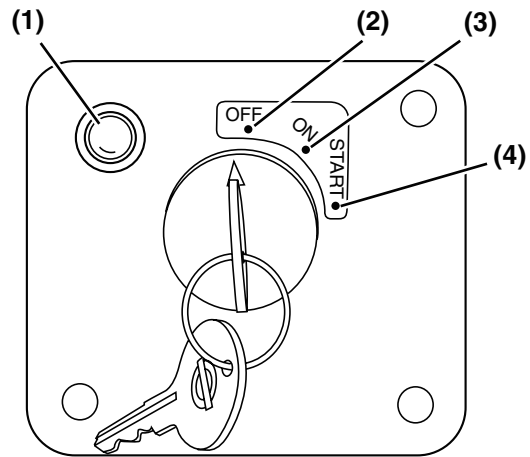

Figure 5
Battery - (Figure 5, (1)) - Your driven machine may have a battery indicator that comes on if there is a problem in the charging system. This indicator does not indicate whether the battery is discharged. See *Troubleshooting Chart* on page 79.
If your engine is equipped with electric start it may have a three position key switch - OFF, ON, and START. See **Figure 5** for an illustration of a typical key switch.
OFF (key straight up and down (Figure 5, (2))) - When you turn the key to this position the engine shuts down. Electric current to the battery indicator and other electric devices is shut off. You can insert and remove the key in this position.
ON (Figure 5, (3)) - This is the position the key will be in when the engine is running. When the engine is not running, use this position to energize the optional devices such as indicators or electric fuel pump.
START (Figure 5, (4)) - Turn the key to this position to start the engine. As soon as the engine starts, release the key and it will automatically return to the ON position. Some key switches may be equipped with a feature that prevents you from turning the key to the START position while the engine is running. In these configurations, you cannot turn the key to the START position without first returning the key to the OFF position.